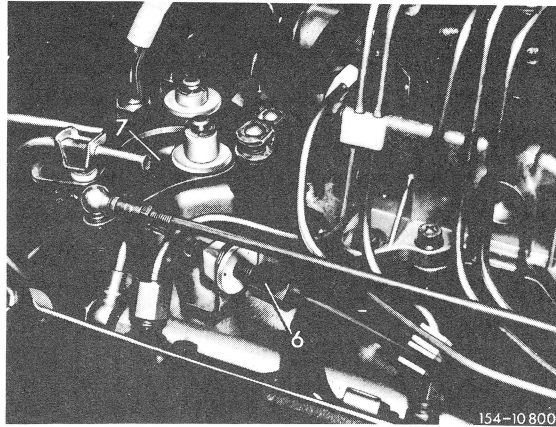

Fig. 4
2. Check bowden cable (6, Figure 4) for correct adjustment at bell crank (7) and if necessary adjust as follows: